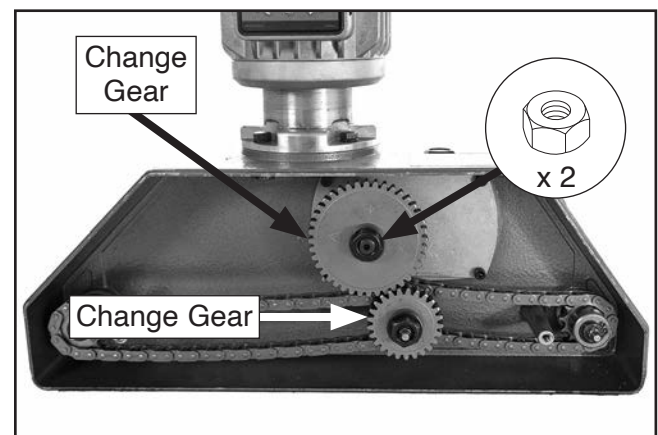

Figure 22. Change gears configured for high speed range.
4. Remove (2) hex nuts securing change gears to shafts (see **Figure 22**).
5. **For high speed range:** Configure gears as shown in **Figure 22**.